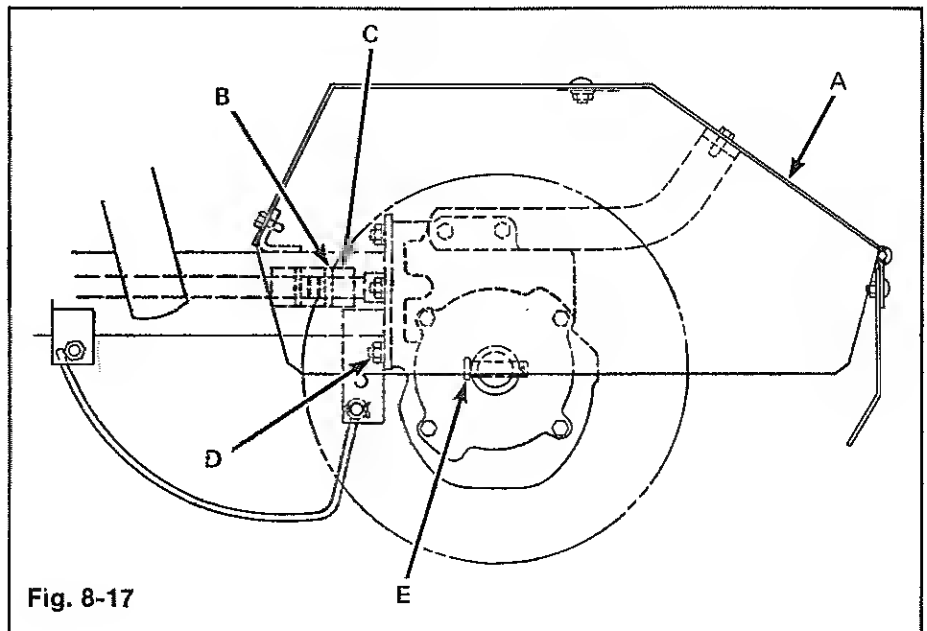

Fig. 8-17
1. Remove hood (A) Figure 8-17 from tiller.
2. Remove rear roll pin (B).
4. Remove rear roll pin (B) securing worm shaft (C) to the front coupling.
5. Disconnect the gear box from the front frame by removing (4) hex nuts (D).
6. Disassemble the two tine assemblies from the gear case shafts by removing clevis pins (E).